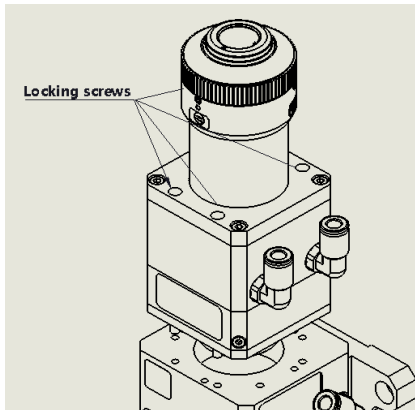

Figure 11 Collimation component CM
- Use a 3mm internal hexagonal wrench to unscrew the screws above the optical fiber collimation mirror as shown in Figure 11. Place it in a clean place;